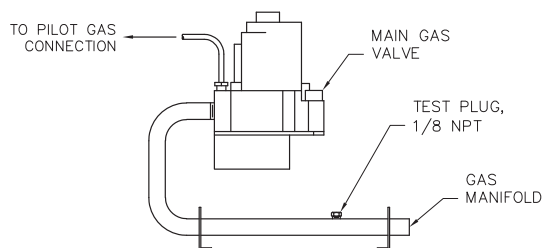

Figure 5.2: Gas Train Manifold 63-03L Through 63-06
- Typical gas train manifolds are illustrated in Figure 5.2 through 5.5.